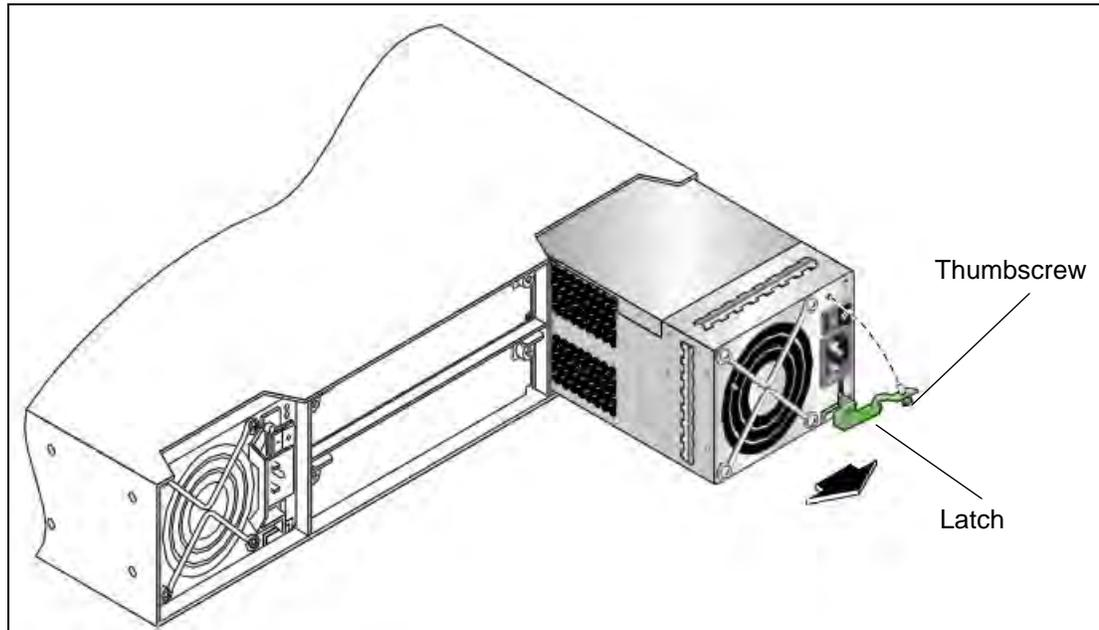

Figure 5.37 - Remove PSU Module
4. Turn the thumbscrew at the top of the latch counterclockwise to loosen and disengage it from the module; however, do not remove the thumbscrew from the latch (**Figure 5.37**).